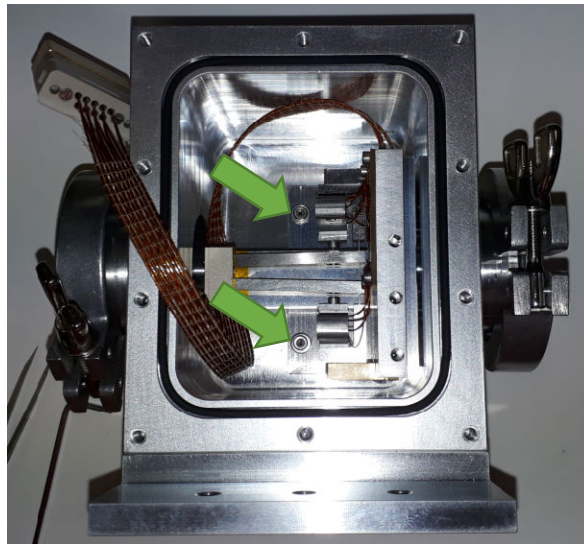

Figure 10 Position of bracket screws within the vacuum box
5. Remove the 2 holding M3 screws of the bracket (see Figure 10).